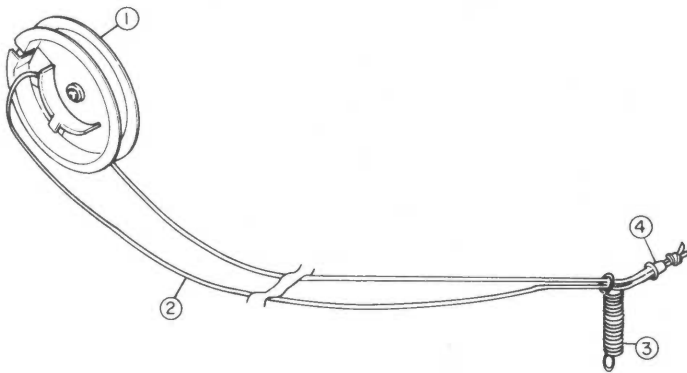

Fig. 5-2-1
- (1) Pass the dial string (2) through the dial pulley (1). Then place both ends of the dial string together and pass them through the dial spring (3) and eyelet (4). Finally tie the two ends together, noting that the spring should be directed as shown in Fig. 5-2-1.